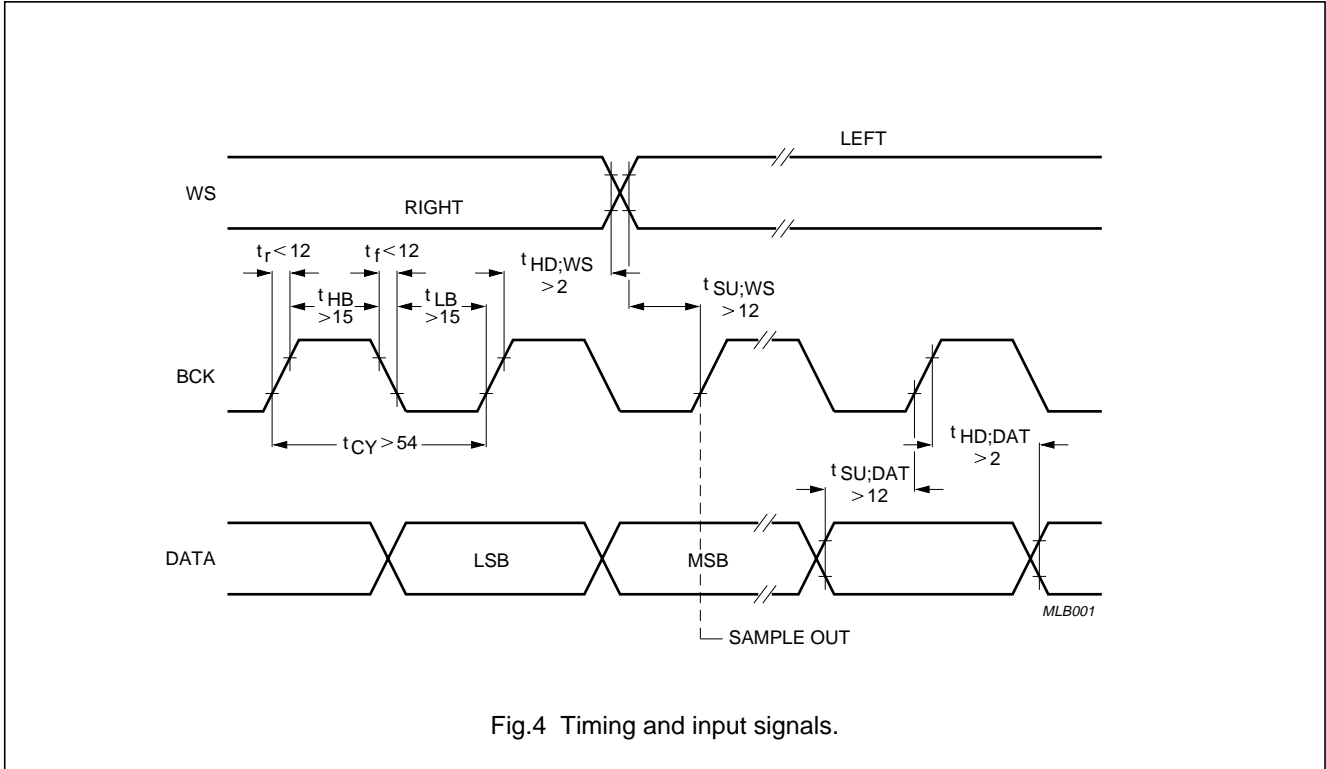

Fig.4 Timing and input signals.
The TDA1545A accepts input serial data formats of 16-bit word length. Left and right data words are time multiplexed. The most significant bit (bit 1) must always be first. The format of data input is shown in Fig.4 and Fig.5. With a LOW level on the word select input (WS) input data is placed in the right input register and with a HIGH level on the WS input data is placed in the left input register. The data in the input registers is simultaneously latched in the output registers which control the bit switches. An internal bias current I_{bias} (see IBL and IBR in Fig.1) is added to the full scale output current I_{FS} in order to achieve the maximum dynamic range at the outputs of OP1 and OP2 (see Fig.1). The reference input current I_{REF} controls with gain A_{FS} the current I_{FS} which is a sink current and with gain A_{bias} the I_{bias} which is a source current (note 1). The current I_{REF} is proportional to V_{DD} so the I_{FS} and I_{bias} will also be proportional to V_{DD} (note 2) because A_{FS} and A_{bias} are constant. The reference output voltage V_{REF} in Fig.1 is $\frac{2}{3} V_{DD}$. In this way the maximum dynamic range is achieved over the entire power supply range. The tolerance of the reference input current in Fig.1 depends on the tolerance of the resistors R3, R4 and R_{REF} (note 3).
Timing (Fig.4)